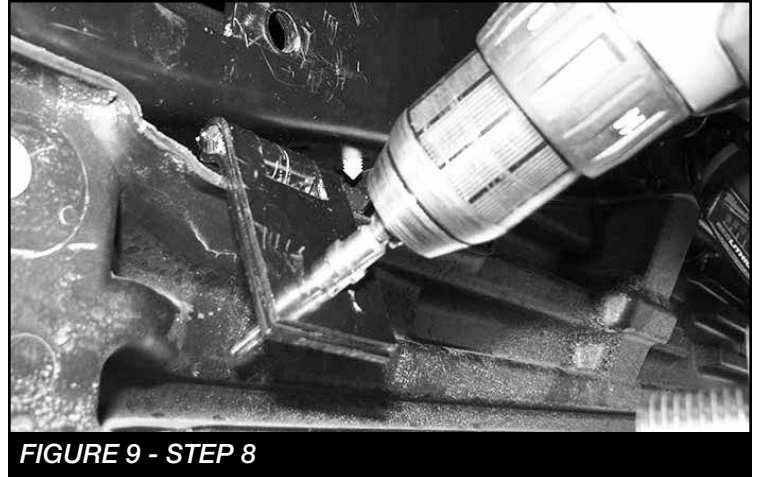
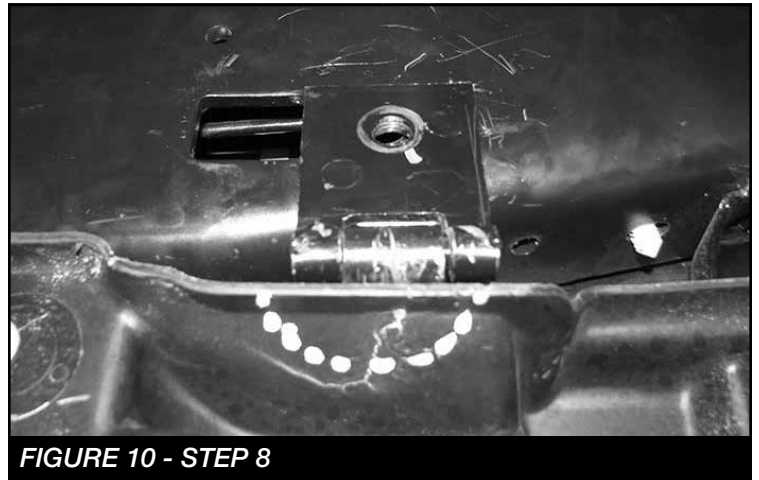

FIGURE 9 - STEP 8
FIGURE 10 - STEP 8
8. Using a step drill bit. Drill the fuel tank mounting strap to 1/2" **SEE FIGURE 9**, Next, mark and cut a radius on the plastic fuel tank cover. It will measure the width of the strap and 1" from the edge. **SEE FIGURE 10**.